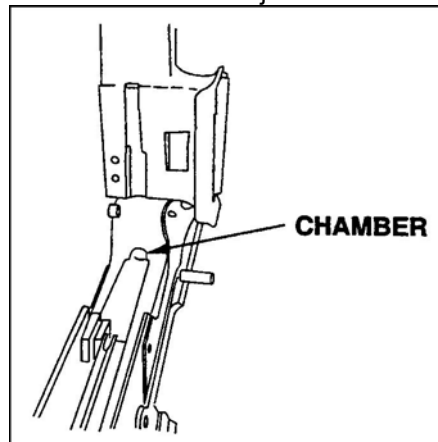

Figure 8. M240C chamber.
- (7) Check the receiver and the chamber for jammed rounds or links (Figure 8).